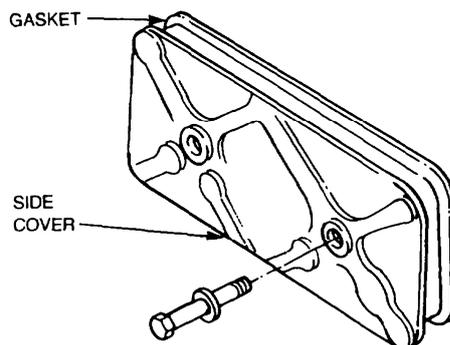

Figure 13 Rear Side Cover Plate Gasket Replacement
- b. Remove the two bolts and packing washers securing the rear cover to the engine block and remove the rear cover (Figure 13). Discard the sealing washers.